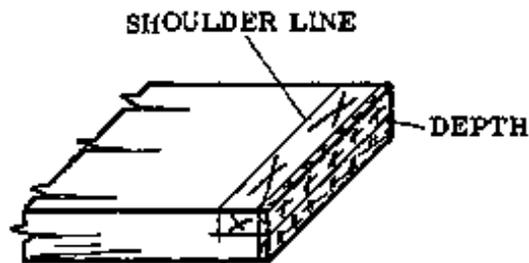

Fig. 3
- Mark the shoulder lines of the rebate on the inside face of the piece. using the try square (Fig. 3).
- Mark the depth of the rebate on the end grain and the edge, using a marking gauge (Fig. 3). Show the waste with crosses.